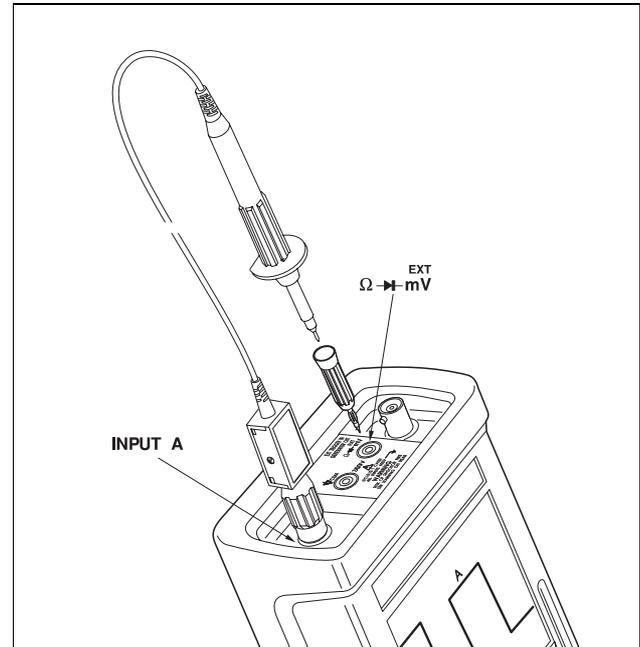

Figure 9-2 INPUT A Probe Calibration Setup
1. Connect the INPUT A BNC input to the GENERATOR OUT red banana jack. See Figure 9-2. Use the red scope probe and the red 4-mm banana adapter.